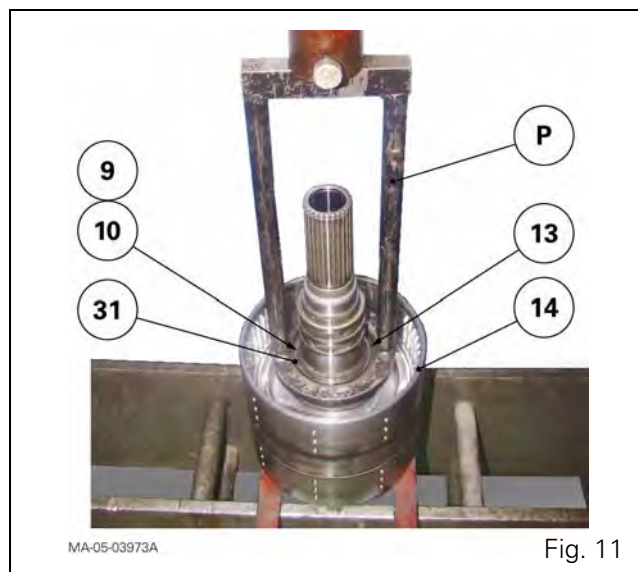

Fig. 11
40. Fit the reverse shuttle unit on a press with the Belleville washers (31 Fig. 11) facing upwards. Using the tool (ATP3002 see § F), compress the Belleville washers (31).